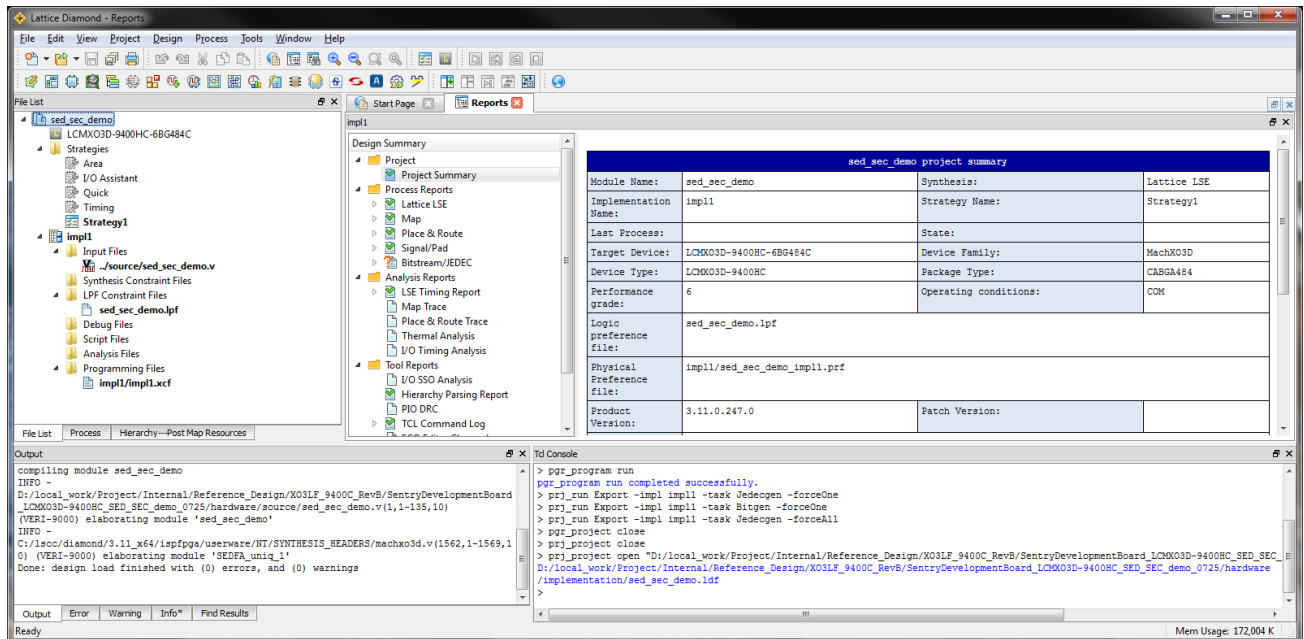

Figure 7.2. Project Opened
2. The opened project is shown in Figure 7.2.